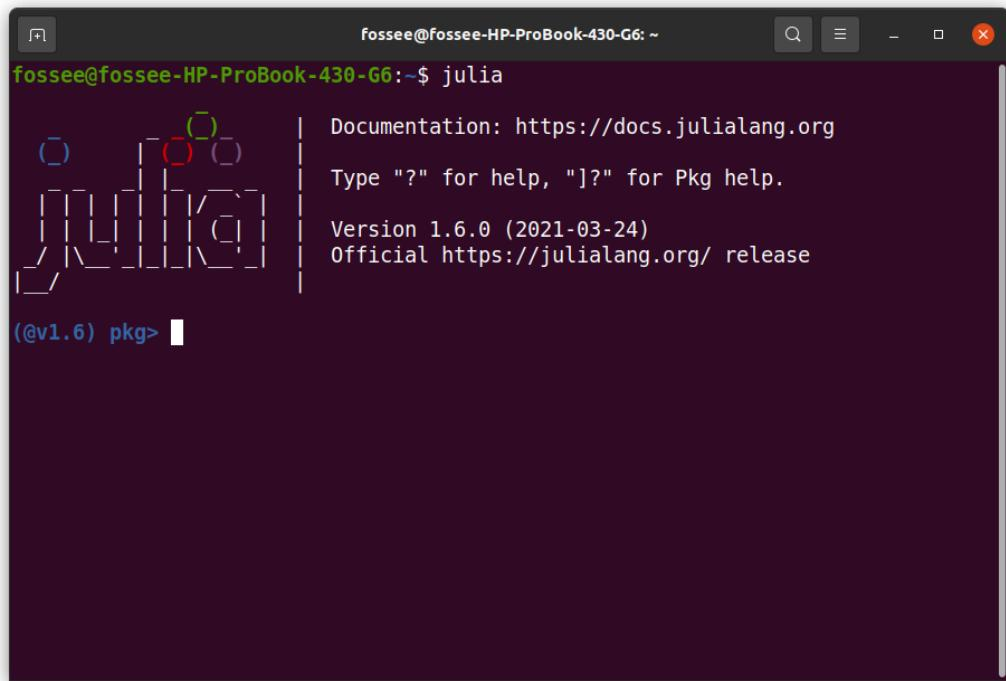

Figure 3.34: Linux terminal to enter Pkg REPL in Julia
2. From the Julia REPL, press ] to enter the **Pkg** REPL. The moment you press ], you enter **Pkg** REPL, as shown in Fig. 3.34.